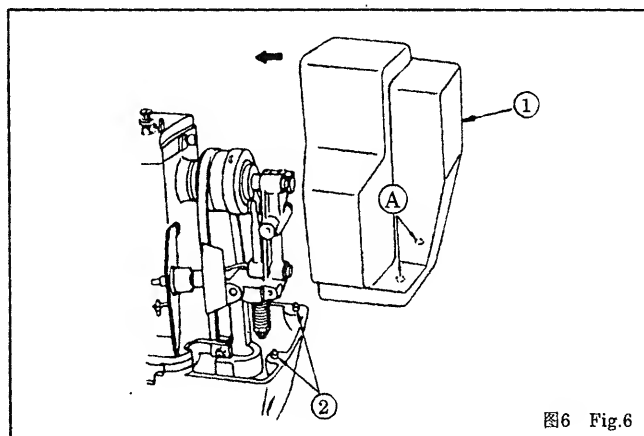

图6 Fig.6
5. 皮带罩的安装和拆卸 图6
5. INSTALLATION/REMOVAL OF BELT COVER Fig.6